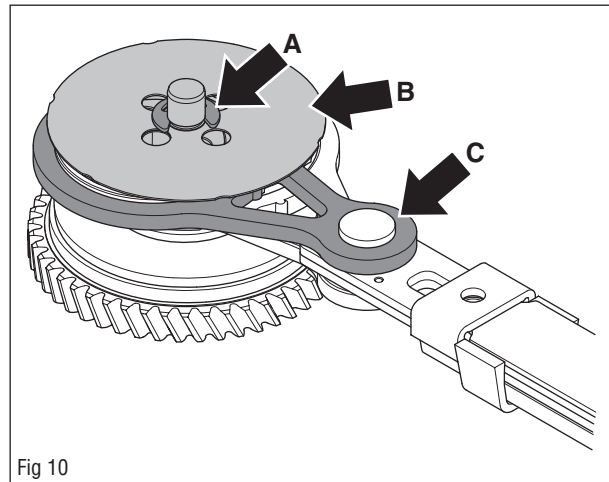

Fig 10
Loosen the circlip (A), lift off the washer (B), carefully lift up the "hook" (C) and lift off the cutting unit. See figure 10.